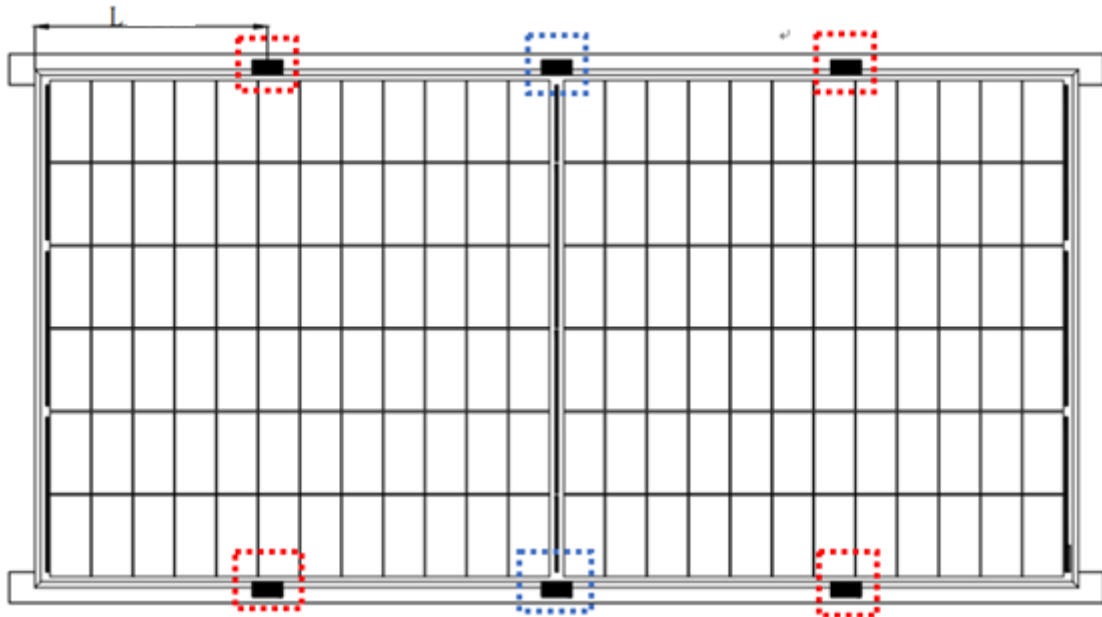

Figure 6
During the installation of bifacial modules, the frame and mounting rack should maintain parallel, as shown in figure 6.
- 2) As for above figure 6, the solid red rectangles indicate primary clamp installation positions and the center positions of long frames where clamps can be added for additional support.